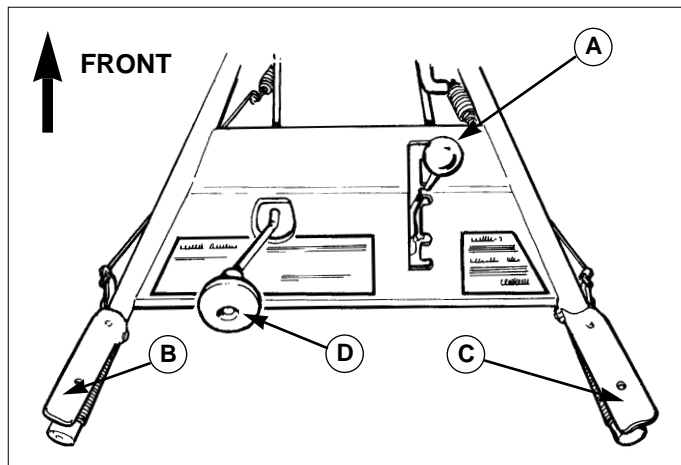

Figure 4. Operator's Control Position
A. Speed Selector - This lever (A, Figures 4 & 5) is used to set the ground speed of the snowthrower.
B. Drive Control - This control engages the traction drive as the lever (B, Figures 4 & 5) is depressed, and disengages the traction drive when the lever is released. The traction drive provides power to the wheels. **NOTE:** Changing ground speeds must only be done while the Drive Control is in the disengaged (fully released) position.
C. Auger Control - The Auger Control clutch lever (C Figures 4 & 5), engages the auger drive (which throws the snow) as the lever is depressed, and disengages the auger drive when the lever is released.
D. Chute Direction Control - The Chute Direction Control (D, Figures 4 & 5), allows the discharge chute to be rotated to throw snow in the desired direction. Snow may be thrown at any angle from straight left, to straight forward, to straight right.